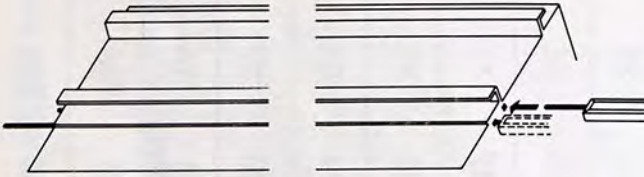

Fig. 136
1. How to change a latch needle, fig. 136 and 137
Remove the two protecting rails underneath upper and lower main rail : with thorn of grey tool push rail inwards at one side, then pull it out at the other, fig. 136.